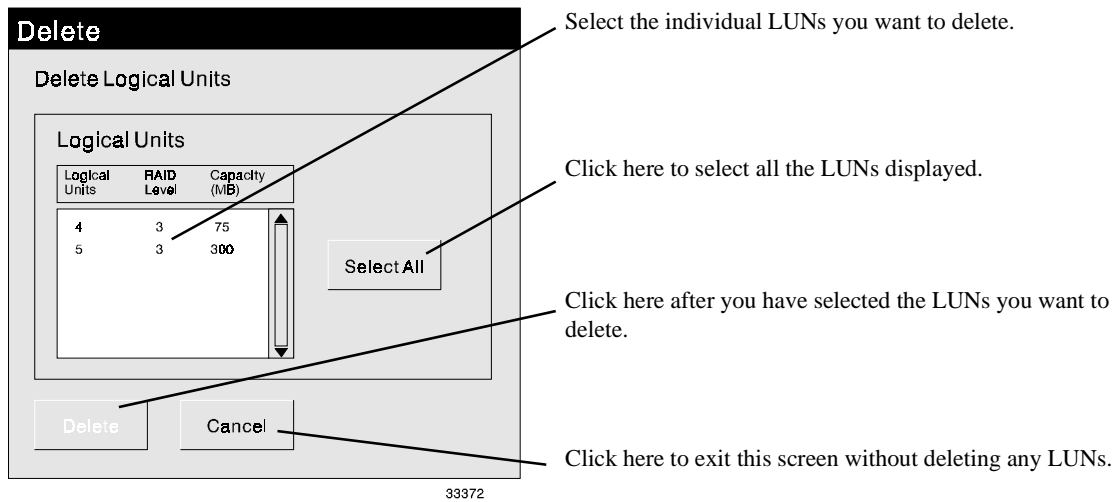

Figure 35. Delete LUNs Screen
5. Press the Delete key, select Options → Delete from the drop-down menus, or right click on the drive group containing the LUN, then select Delete. A screen like Figure 35 on page 73 appears.